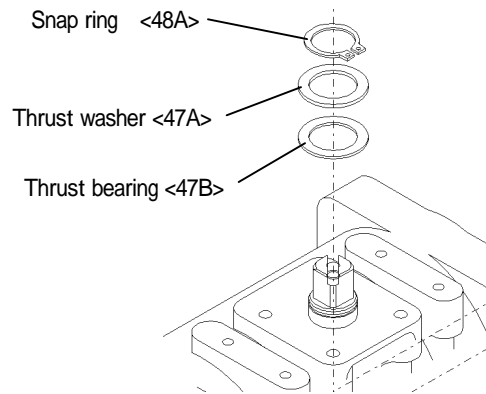

Fig.6
(8) Remove a snap ring (with snap ring pliers), a thrust washer and a thrust bearing from the shaft (**Fig.6**).